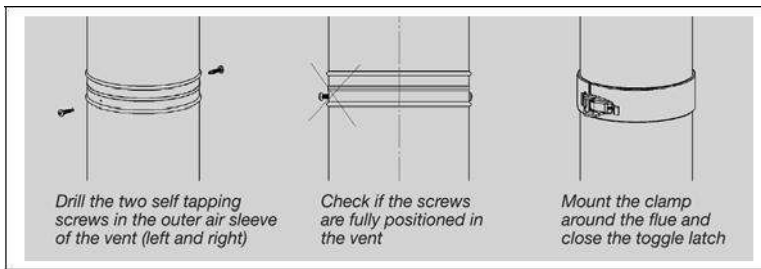

Figure 4.3 Bracket securing
10. The outer vents must be secured with the 2 provided self-tapping screws. See figure 4.3. Use a low torque setting to drill the screws into the vent system.